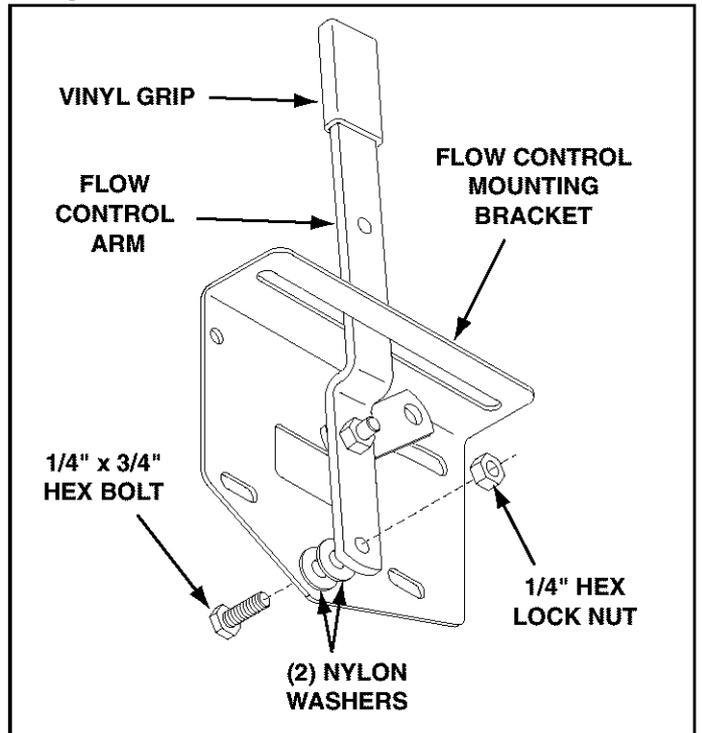

FIGURE 7
- Assemble the flow control arm to the flow control mounting bracket using a 1/4" x 3/4" hex bolt, two nylon washers and a 1/4" hex lock nut as shown in figure 7. **Tighten carefully.** The flow control arm should not be loose but should pivot with no more than a slight resistance.
- Place the vinyl grip onto the flow control arm. See figure 7.